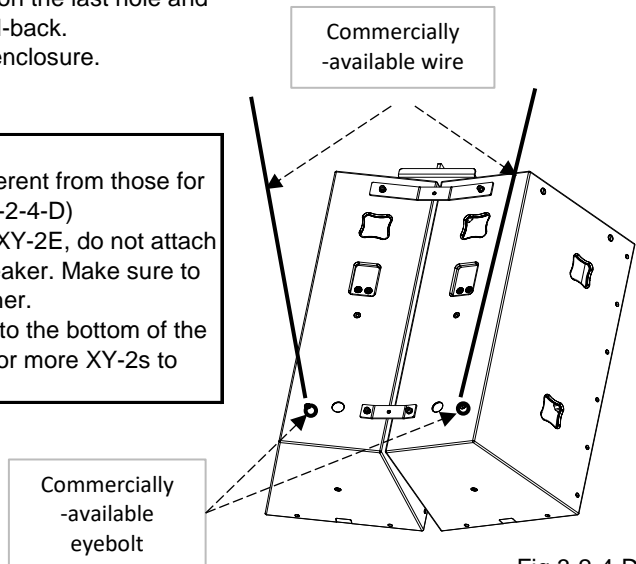

Fig.3-2-4-D
- (4) Ensure the two commercially-available eyebolt are secured to mounting point on the top of each enclosure to suspend it with wire as a secondary safety feature. (Fig.3-2-4-E)